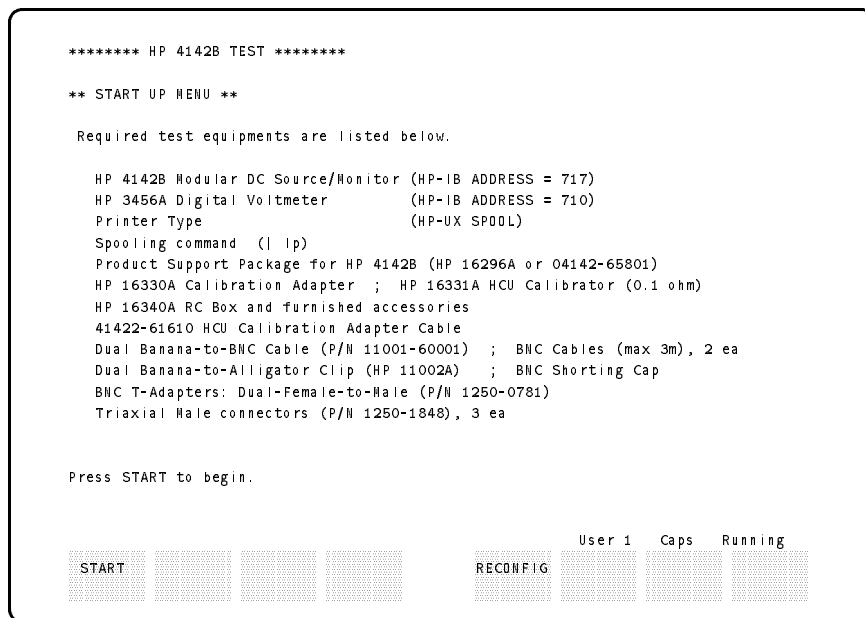

Figure 2-36. The 4142B Test Start-up Menu Page
1. Select the **4142B** softkey from the PV4062 main menu. The 4142B Test start-up menu page is displayed as shown in Figure 2-36.